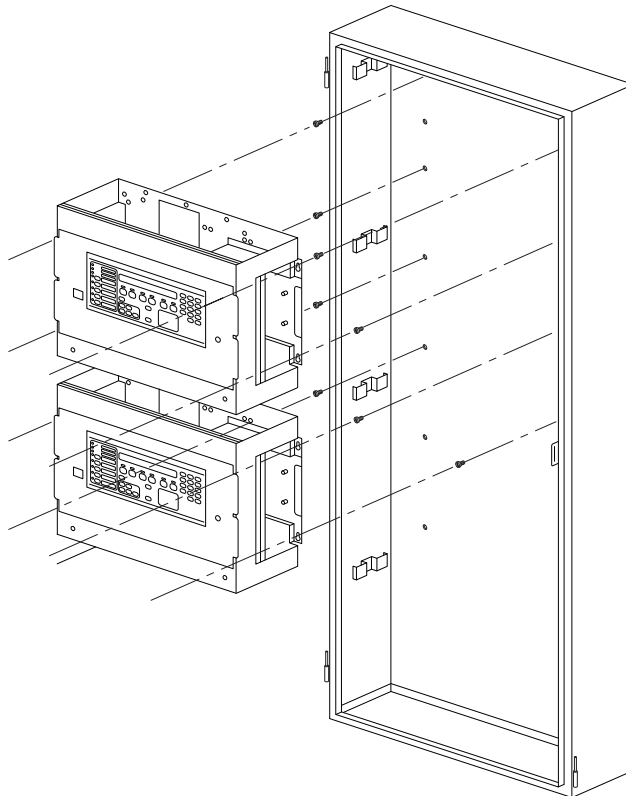

Figure 9. Installing the CPU Bay Assembly (4100-9121 Model Shown)
1. In the locations shown in Figure 9, partially install four bay mounting screws for each bay. Fasten the screws securely enough to hold the weight of the bays but leave them extended enough so that the bays can be hung on them.